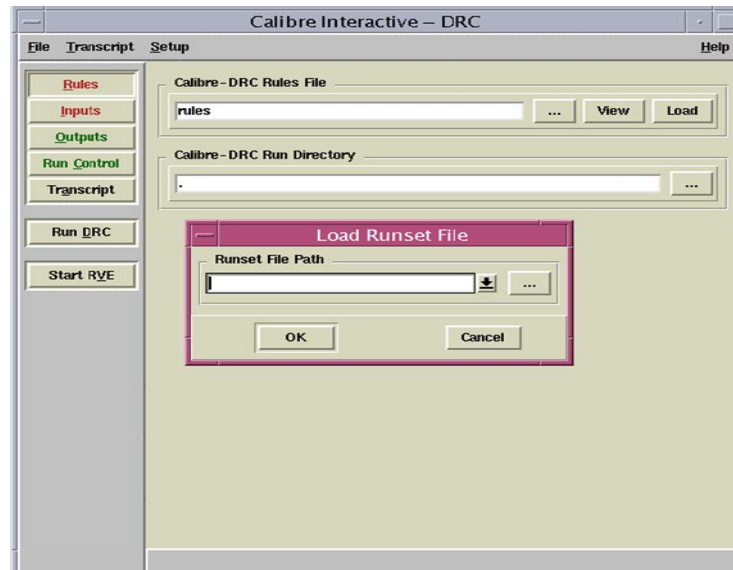

Fig 7 Calibre Interactive – nmDRC window
1. Open your layout, in the Layout Editing window, select **Calibre->Run DRC** to invoke the **Calibre Interactive – nmDRC** window (Fig 7). If this is the first time for you to run DRC, click **Cancel** for Load Runset File. If you saved a runset file before and you want to load it, specify the runset file here. Specify DRC Rule File and DRC Run Directory (set it to your working directory) like Fig 8. DRC Rule File can be found in the directory **Calibre->DRC**.